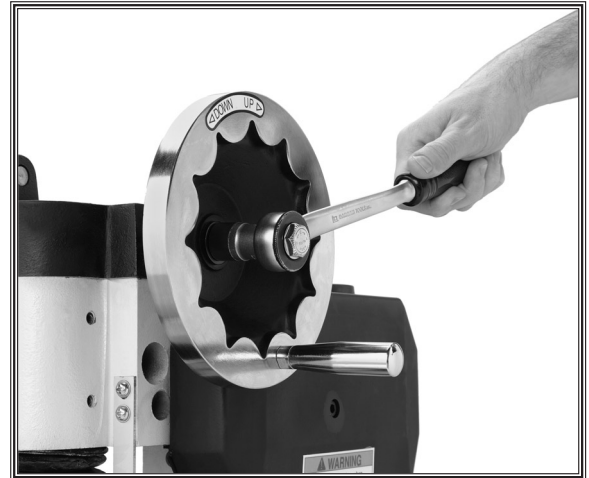

Figure 7. Installing handwheel on shaft.
4. Place the handwheel on the shaft and secure it with the M12-1.75 hex nut and flat washer, as shown in Figure 7.